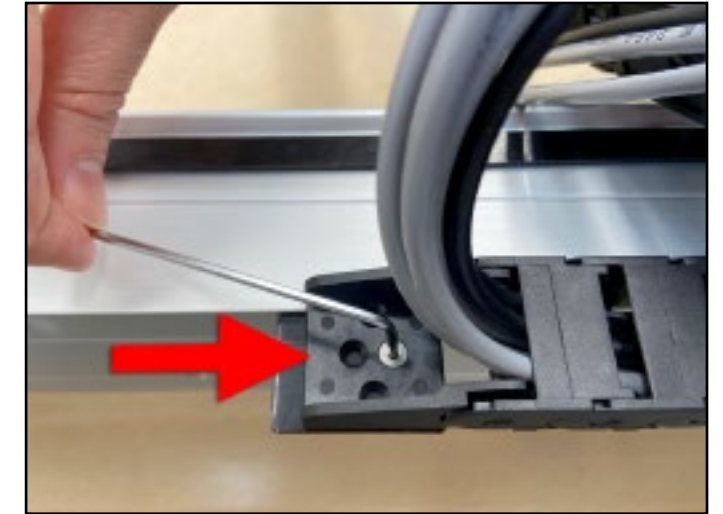

Figure 6-14
6. Use the 2mm hex key and one (1) M3x4mm flat head screw to secure the tail of the Y-Axis drag chain to the single PEM nut in the tail bracket. Use the center through-hole furthest from the end of the drag chain as shown in **Figure 6-14**.